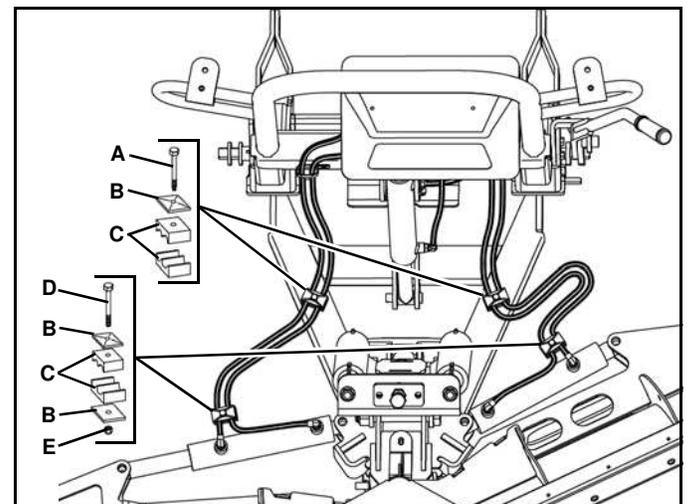

Figure 1-17
13. Loosely install the hydraulic hose clamps with one Hose Clamp Kit (p/n 96112909) as follows: (See Figure 1-17).